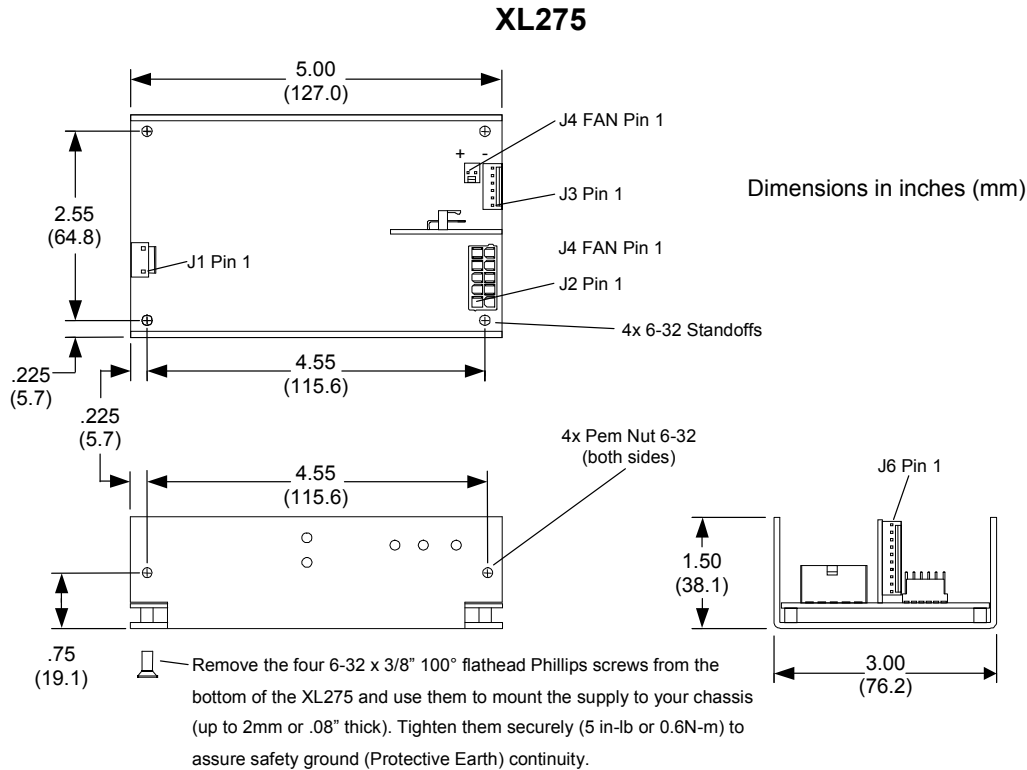

Figure 4-1 XL275 Dimensions
**The pin-1 location differs amongst connector manufacturers. Sometimes pin-1 differs between the header (on the power supply) and the mating housing from the same manufacturer. Disregard the manufacturer's pin-1 location and follow only the pin-1 locations in Figure 4-1.**